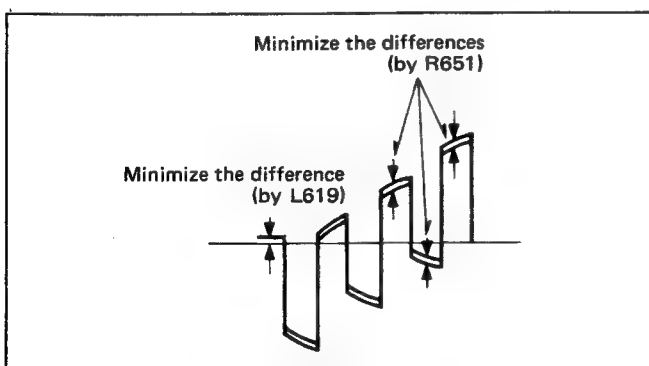

Fig. 34
- 4) Adjust Delay Line Adj. (R651) and Delay Line Matching Trans. (L619) to achieve waveform shown in Fig. 34.